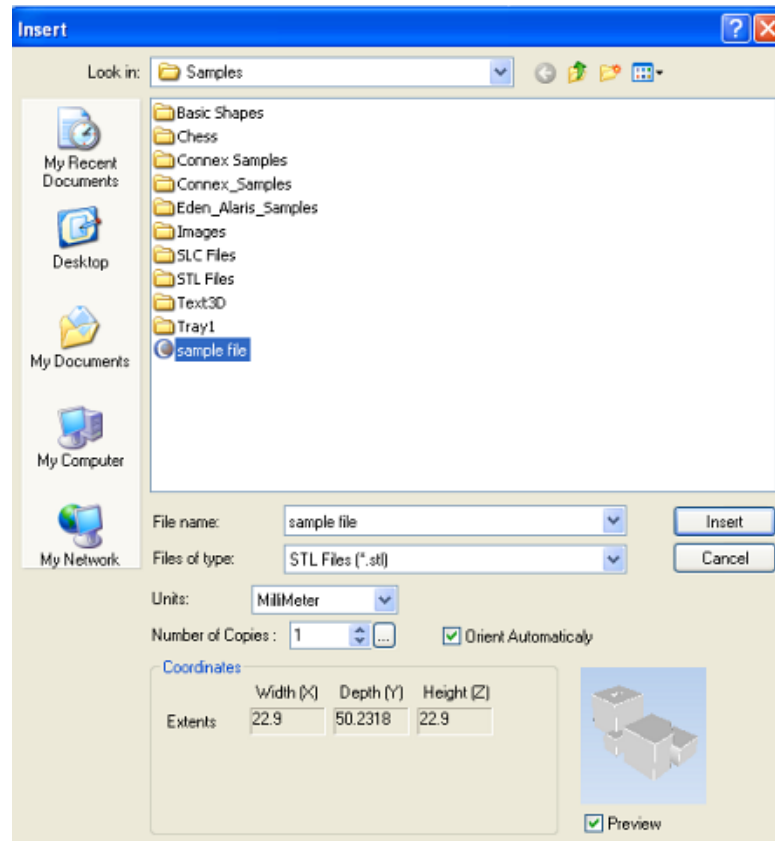

Figure 5-10 *Insert* dialog box
4. Select the desired file, and make sure that it appears in the *File name* field. If the *Preview* check box is selected, the object is displayed in the dialog box, as shown in Figure 5-10.